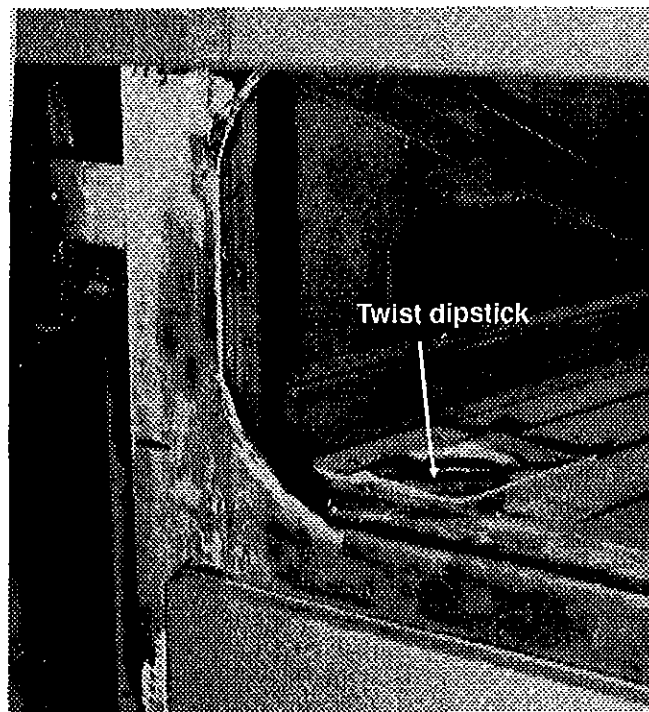

FIG. 22 - Hydraulic oil tank
2. Remove the twist dipstick located in the L.H. side corner and wipe with a clean rag (see fig. 22).